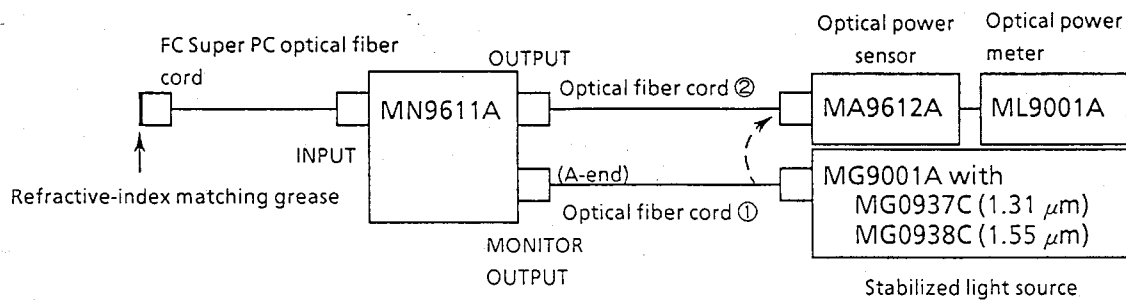

Fig. 7-7 Test System (6)
1. Figure 7-7 shows the block diagram of the test system that measures the isolation of the output for monitoring optical signal.
2. First of all, connect the A-end of the optical fiber cord ① from the light source to the MA9612A, and measure the optical power. Then, put the ML9001A to the MEASURE mode and press the [RELATIVE] key to display "0 dB".
3. Then, connect the A-end of the optical fiber cord ① to the MONITOR OUTPUT connector of the MN9611A, and connect the OUTPUT connector of the MN9611A to the MA9612A with the optical fiber cord ②. Connect an FC Super PC optical fiber cord to the INPUT connector of the MN9611A. To the free end, apply the refractive-index matching grease to eliminate the reflection from this end. At this time, the displayed value on the indicator of the ML9001A is the isolation between the MONITOR OUTPUT and the OUTPUT connectors.